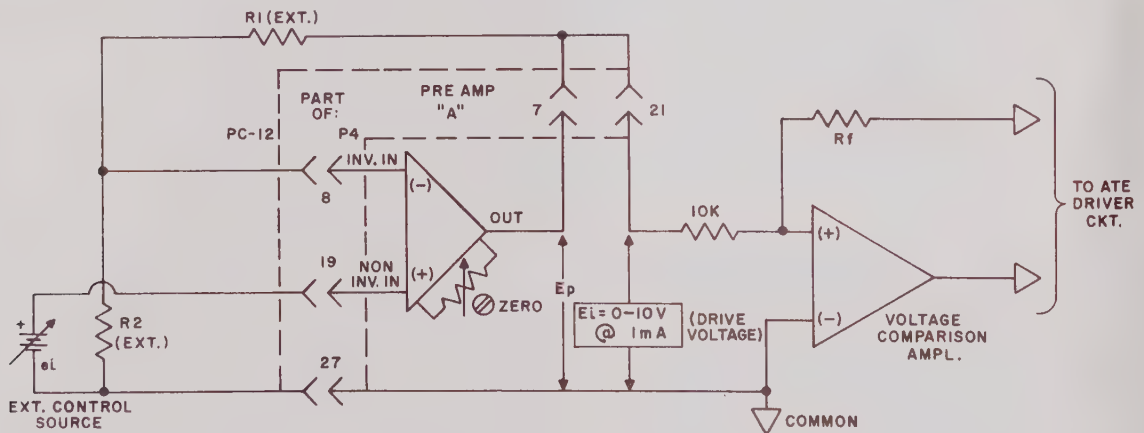

FIG. 3-9 USING PREAMP "A" TO GENERATE THE 0-10V @ 1 mA CONTROL POTENTIAL FROM A HIGH IMPEDANCE SOURCE.
- 3-52 External control sources which cannot supply at least 100 μ A of control current can be best accommodated by using one of the preamplifiers in the non-inverting configuration. The control source is connected to the ATE as shown in FIG. 3-9.
- 3-53 (Refer to FIG. 3-9). The preamplifier output voltage (E_p) is made equal to the required drive voltage " E_i " by calculating the external resistors (R_1 , R_2) for the required gain, using the equation: